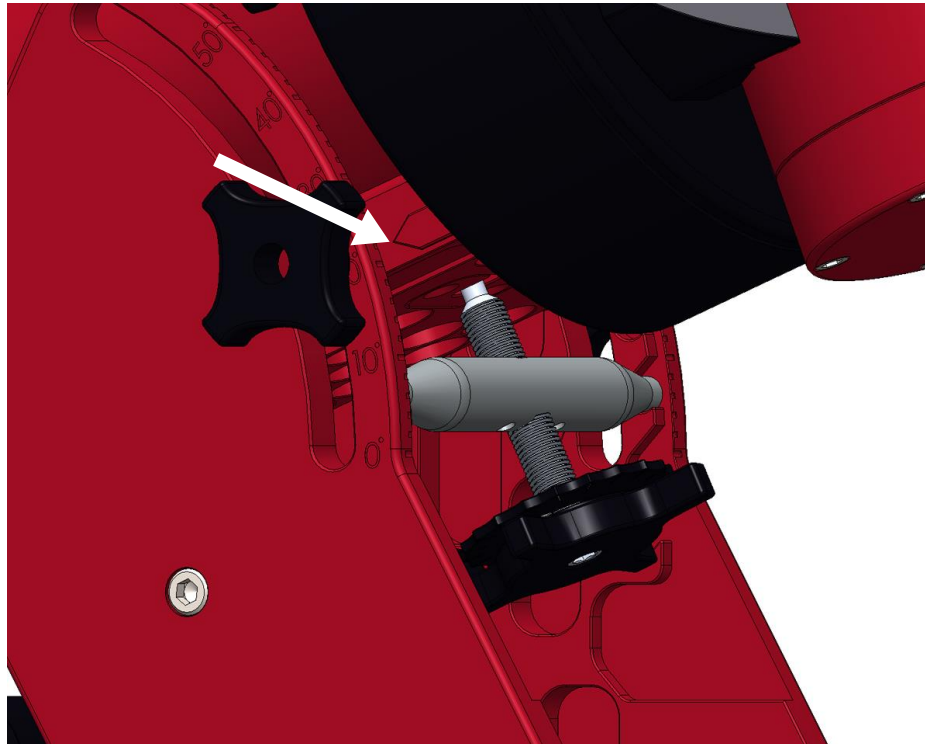

Figure 50: The arrow machined into the right ascension base plate points to the altitude of Paramount MyT polar axis.
The altitude of the mount's polar axis can be determined by looking at the intersection of the bottom of the altitude reference block and the nearest tic mark on the Altitude Scale (Paramount MEII, MX, and MX+, Figure 49), or the machined arrow on the base of the Paramount MyT right ascension housing Figure 50.
3. Align the arrow that is machined either side of the right ascension housing base (Figure 50) with the tic mark that matches the observing site's latitude, and then insert the stainless steel bar into the nearest slot.